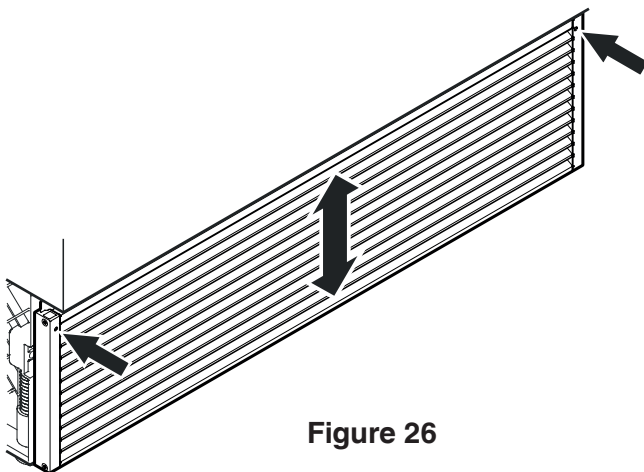

Figure 26
8. Adjust the height of the ventilation grille (Figure 26).